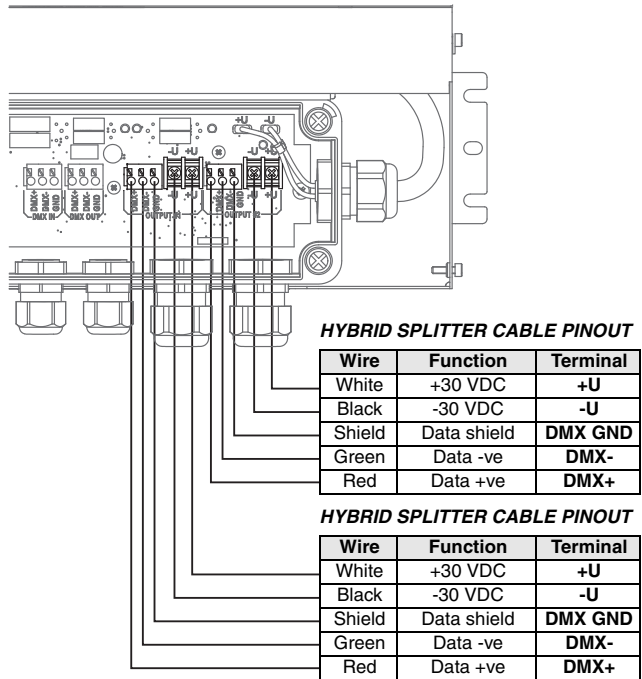

Figure 15: Hybrid Splitter cable pinout in PSU
4. See Figure 15. Connect the wires from the hybrid Splitter cable to the terminals marked **OUTPUT #1** in the PSU as follows: